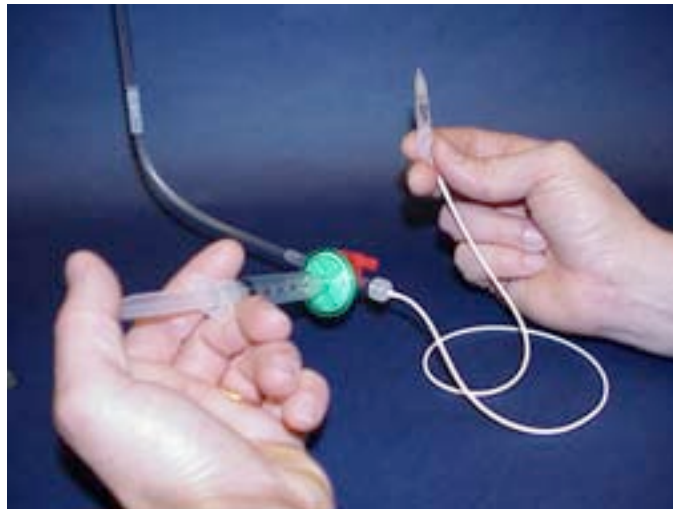

Figure 4
7. Gently flush the system using the syringe while simultaneously gently depressing the prechamber to rid the system of air bubbles (figure 4-next page). It is important that the prechamber be free of bubbles. Bubbles of any size in this area can impede flow through the system.